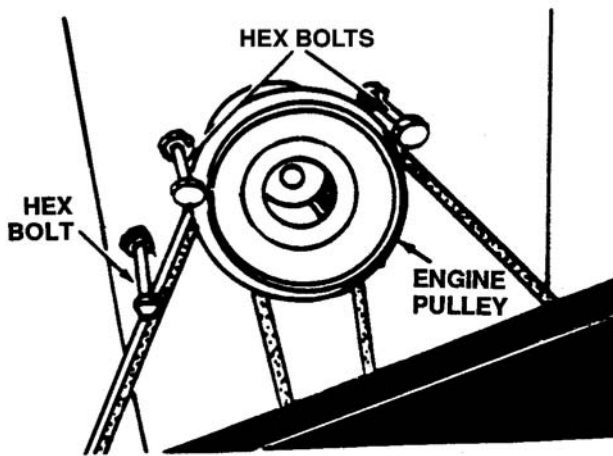

Figure 12-34. Location of Hex Bolts (Belt Keepers)
2. Remove the hex bolts (belt keepers) from the engine pulley belt guard. See Figure 12-34.